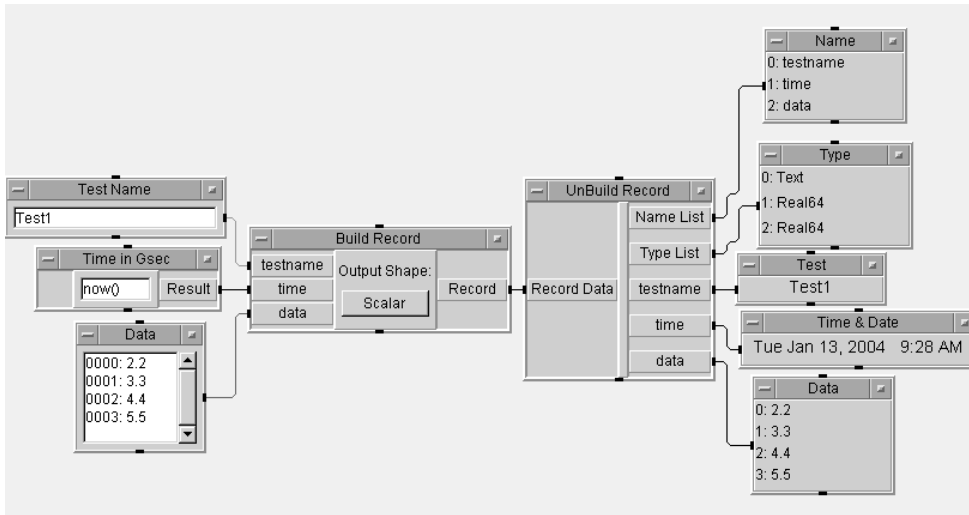

Figure 7.6. Using the Unbuild Record object
12. Run this program. See Figure 7.6.